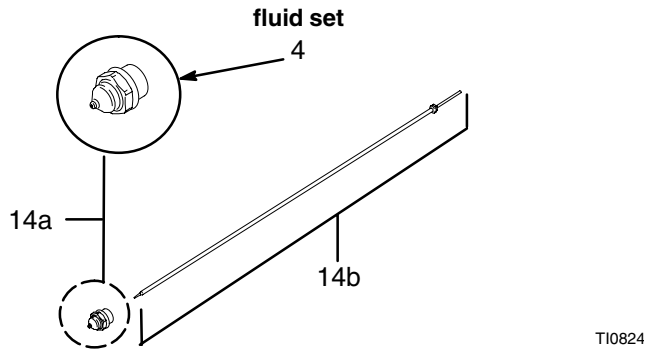

Fig. 9
Fluid sets include a nozzle (14a), o-ring (4) and needle assembly (14b). See Fig. 9.